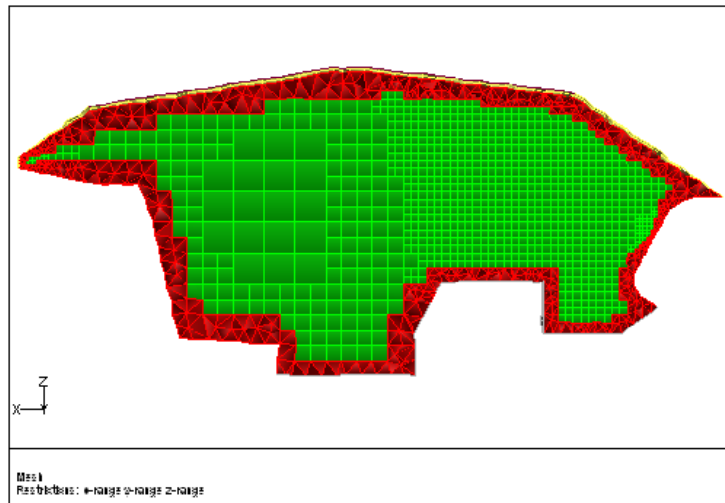

Figure 5.14: Slide of Cells at  $y = 50$
9. Display the slide of cells at  $y = 50$  and  $y = -525$  (Figures 5.14 and 5.15).